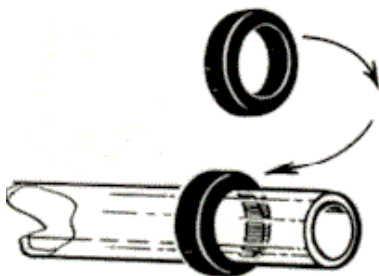
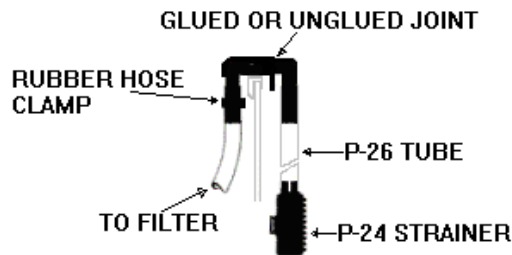

FIG. 9
FIG 10
1. You should have two-four foot section of the XL-11 hoses to make both intake and exhaust hoses. Place one of the P-6 rubber hose clamps on each end of the hose that is to be used for the intake. (Fig. 9). Then slip one end of the hose over the in port on the main casting. Note: OUT & IN ports are marked on motor. The **GLUED** XL-12 "U"-tubes now connects to the other end of the **INTAKE** hose (Fig. 10).
2. Take the other hose and place one of the P-6 hose clamps on one end. Then slip XL-15 plastic hose clamp over the opposite end and place the remaining P-6 hose clamp on that end. Place one end of the hose over the out port on the main casting. The **UN-GLUED** XL-12 "U"-tubes now connects to the other end of the **EXHAUST** hose (Fig. 10).